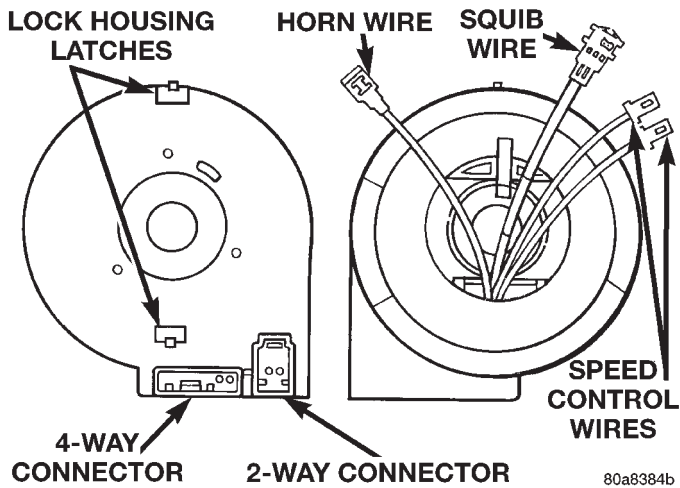

Fig. 5 Clockspring
- (2) Remove the two steering column lower cover attaching screws. Remove upper cover.
- (3) Remove the Driver Airbag Module attaching T-30 Torx bolts from back side of the steering wheel. Lift the module and disconnect the wire by:
- (4) Remove the speed control switch screws from back of the steering wheel. Pull the switch pods out and disconnect the wires.
- (5) Disconnect the horn wire from the steering wheel and remove the speed control wires from the wire guides.
- (6) Remove the steering wheel. Carefully feed all wires through the steering wheel armature to avoid damaging wires. When replacing a deployed Driver Airbag Module, a new clockspring must be installed (Fig. 5).
- (7) Remove the nut attaching steering wheel to the steering column.
- (8) Disconnect the natural 3-way and the yellow 2-way connectors from back side of the Driver Airbag Module.
- (9) Remove the steering column shrouds by unfastening the two fasteners.
- (1) Adjust the steering wheel so that the tires are straight ahead position.
- (2) Center the clockspring by ensuring the yellow indicator visually seen through the centering window. Refer to Clockspring Centering Procedure.
- (3) Align the top locking tab with the slot on the lock housing. Gently push into place.
- (4) Install the multi-function switch and tighten to 1.5 to 2.5 N·m (14 to 22 in. lbs.) torque.
- (5) Install the steering column shrouds and tighten to 1.7 to 2.3 N·m (15 to 20 in. lbs.) torque.
- (6) Carefully route the wires through the hole in the steering wheel armature. Install steering wheel and Tighten to 61 N·m (45 ft. lbs.) torque.
- (7) Route the speed control wires under the horn mechanism and through the speed control switch pockets. Connect the speed control wires to switches and install switches. Tighten screws to 0.7 to 2.7 N·m (6 to 24 in. lbs.) torque.
- (8) Connect horn lead to the airbag module mounting bracket.
- (9) Connect the yellow airbag lead to the Driver Airbag Module and push secondary latch into place (Fig. 5). Ensure the wires do not get pinched during installation.
- (10) Install the airbag module bolts and tighten to 9 to 10 N·m (80 to 90 in. lbs.) torque. Refer to Diagnosis and Testing for Airbag System Test procedures before connecting the battery negative remote cable.
- (1) Ensure that the road wheels are in the straight ahead position.
- (2) Ensure that the clockspring is centered by using the centering indicator. Refer to Clockspring Centering Procedure in this section.
- (3) Ensure that the turn signal stalk is in the neutral position.
- (4) Carefully route the wires through the hole in the steering wheel armature. Install steering wheel and tighten to 61 N·m (45 ft. lbs.) torque.
- (5) Route the speed control wires under the horn mechanism and through the speed control switch pockets. Connect the speed control wires to switches and install switches. Tighten bolts to 1.7 ± 1 N·m (15 \pm 10 in. lbs.) torque.
- (6) Connect the horn lead to steering wheel.
- (7) Connect the yellow airbag lead to the Driver Airbag Module and push secondary latch into place (Fig. 5). Check that the wires do not get pinched during installation.
- (8) Install the airbag module bolts and tighten the left side first. Tighten to 9 to 10 N·m (80 to 90 in. lbs.) torque.
- (9) Refer to Diagnosis and Testing for Airbag System Test procedures before connecting battery negative remote cable.